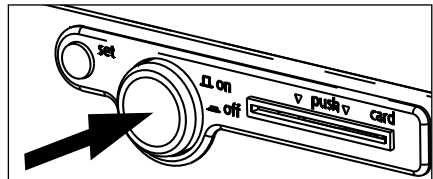

Fig. 1 Switch off incubator by pressing the main switch
- ▶ Push main switch on front side of appliance (Fig. 1).